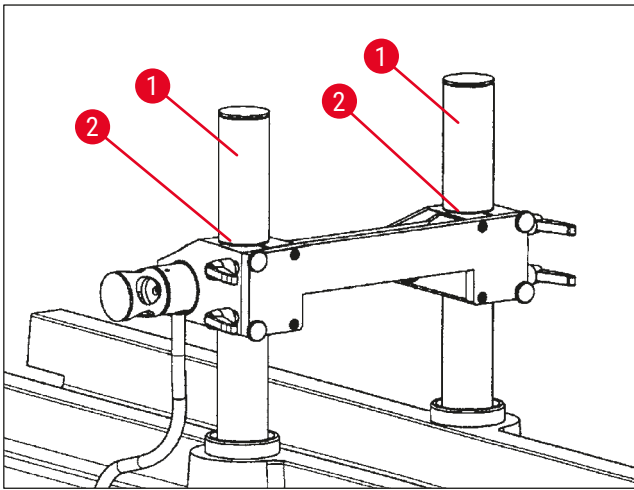

Fig. 83
- A groove (→ Fig. 83-2) in the support columns (→ Fig. 83-1) mark the 100 mm position. This requires that the groove match the upper edge of the knife holder, see (→ Fig. 83).